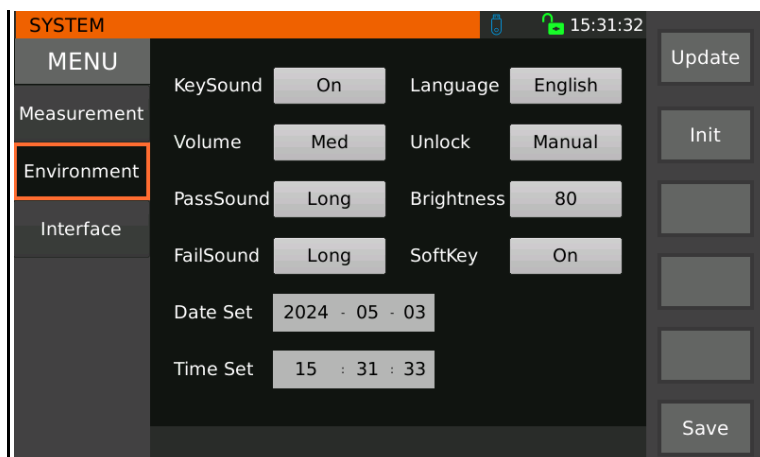

Figure 3-8 System Environment Parameter Settings
- 2、 Select by **[▲]** , **[▼]** arrow keys or knob or directly touch the screen to enter the environment-related system setting interface shown in Figure 3-8.
The environment-related parameter settings in the system setup are shown in Figure 3-8.